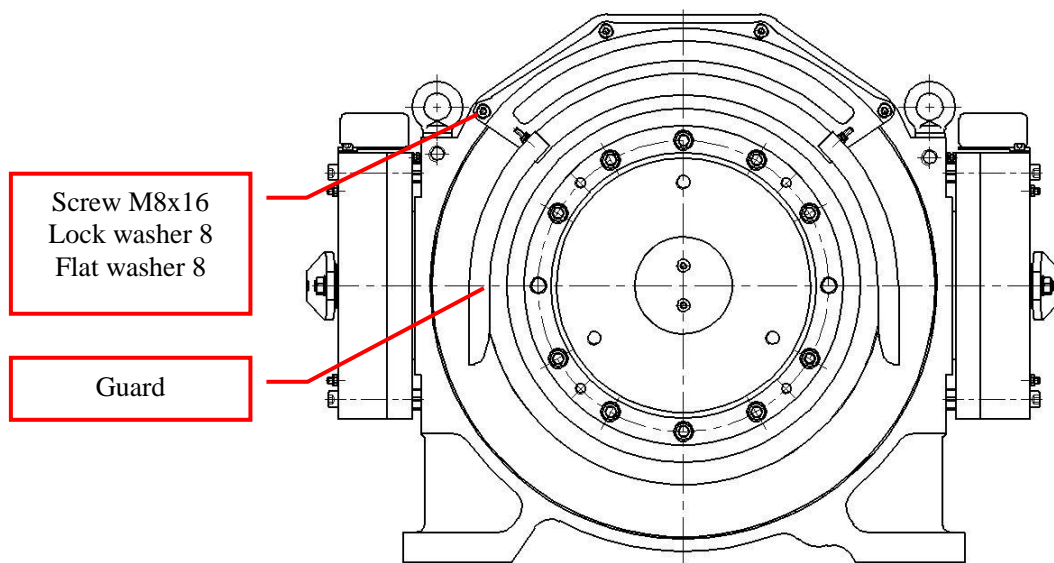

Figure 33: Remove the Guard
- Remove the guard by removing the screws M8x16, lock washers 8 and flat washers 8 with inner hexagon spanner (6mm). See Figure 33.